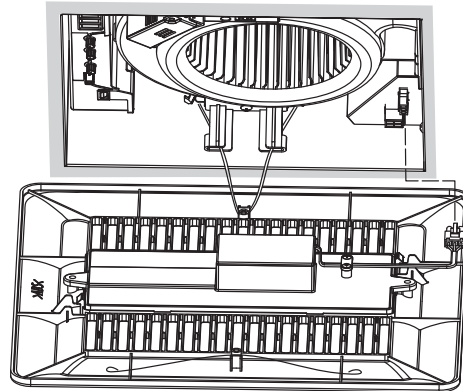
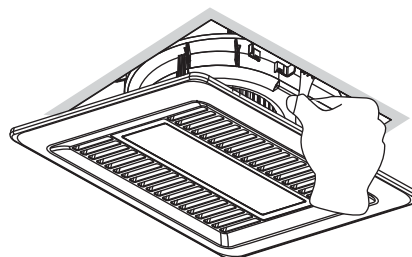

Fig. 10
Fig. 11
- Insert the grille mounting spring on the wiring side into the slot. See Fig. 10
- Insert the plug into the receptacle in the housing and insert the other mounting spring into the slot as shown and mount grille to fan body. See Fig. 10 and Fig. 11